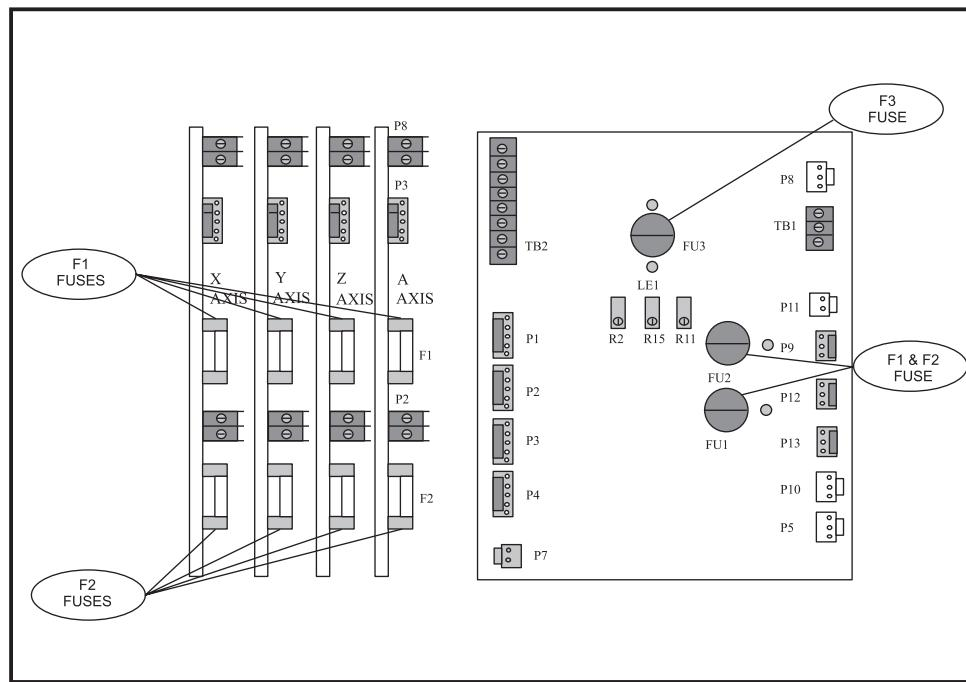

Figure 4.3-3 Servo Drive Assembly; fuse locations
3. On the SERVO DRIVE ASSEMBLY, there are three individual fuses on each of the SERVO DRIVE boards (See Fig. 4.3-3; the F3 fuses are not shown).